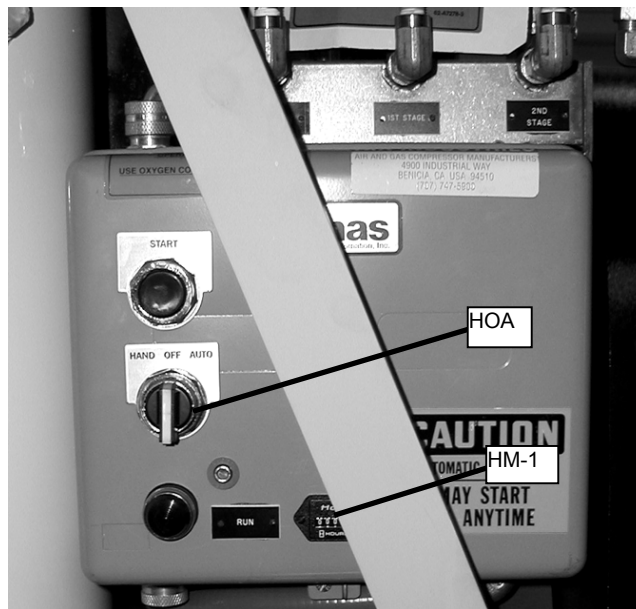

Figure 2. Booster Compressor Electrical Control Box.
- Set the booster compressor control selector switch (HOA) to 'AUTO'. Refer to Figure 2.